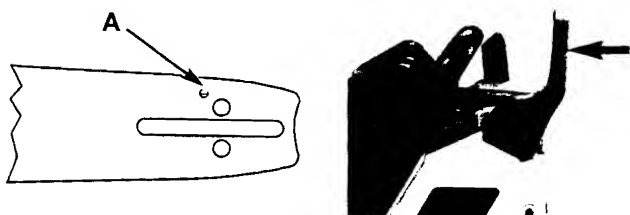

Fig. 17
**CAUTION:** To ensure the bar and chain receive oil, **ONLY** USE THE ORIGINAL STYLE BAR with the oil passage hole (A) as illustrated in Fig. 17.
1. Make sure the Chain Brake® lever is pulled back into the DISENGAGED position (Fig. 17).